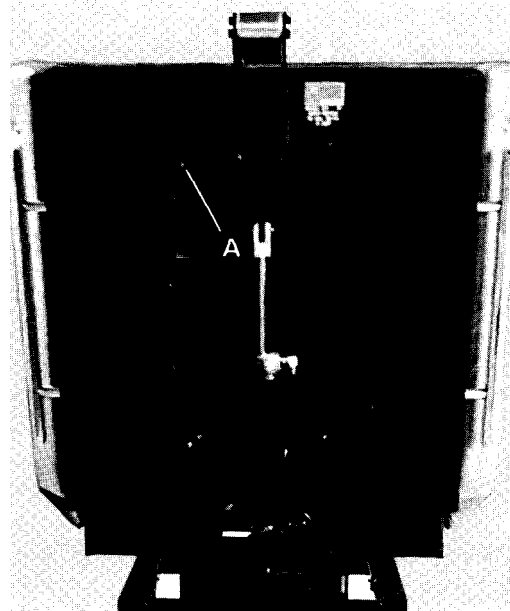

Fig. 4
- 2) Remove the (4) screws located inside the recessed area of the metal back frame. (Item A, Fig. 4).
- 4) Align holes on back section and install (4)#10-24 x 5/8" screws. Item A, Fig. 4.